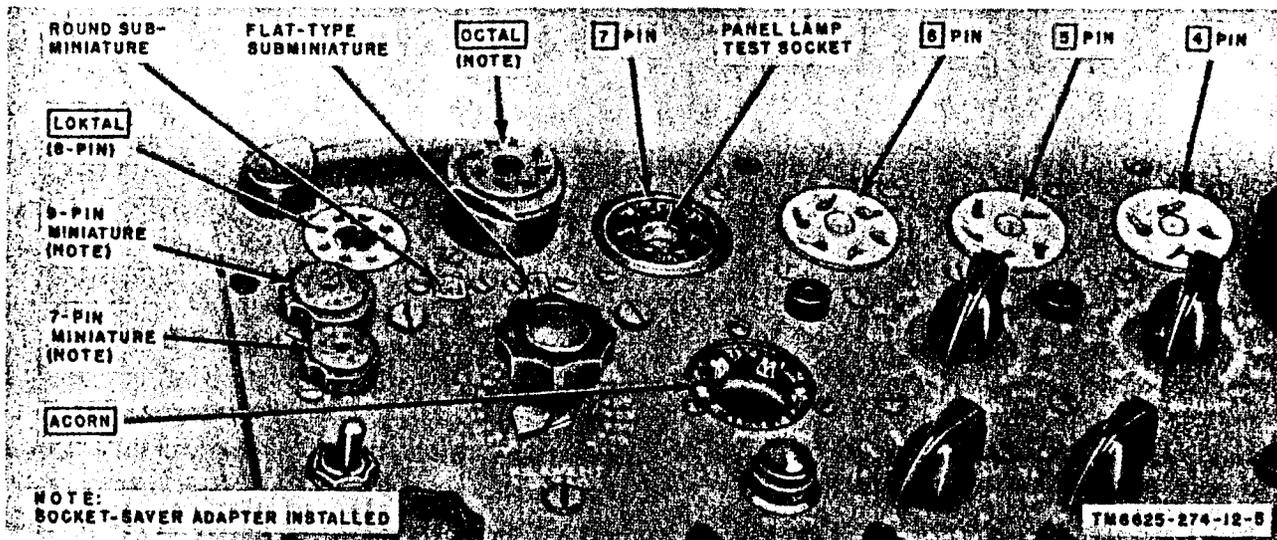

Figure 7. Test sockets, socket-saver adapters installed.
(fig. 7)
d. Socket-Saver Adapters (TV-7D/U). Three socket-saver adapters (fig. 7) are included with each TV-7D/U: one 7-pin miniature, one 9-pin miniature, and one octal. The adapters are installed in their corresponding sockets and receive the wear rather than the permanent socket. When worn so that satisfactory contact can no longer be made, the socket-saver adapters can be replaced without disconnecting the leads from their respective test socket.
proper test socket (fig. 7) and, if the instructions in the *Notations* column require it, connect panel jacks G or P to the tube caps with the test leads.